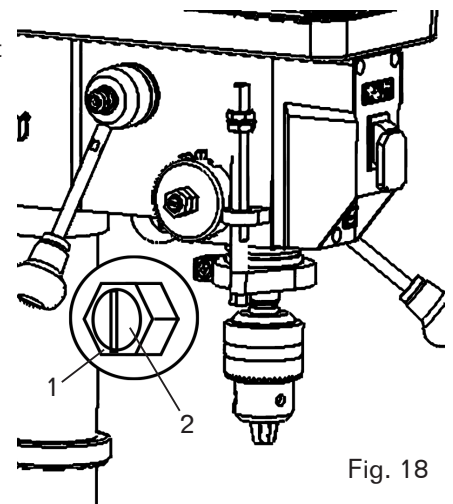

Fig. 18
## ANGULAR "PLAY" OF THE SPINDLE (FIG. 18)
1. Loosen the outer nut (Fig. 18 - 1) about 1/8 inch.
2. Without obstructing the upward and downward motion of the spindle, turn the screw (Fig. 18 - 2) clockwise to eliminate the "play."
3. Tighten the lock nut (Fig. 18 - 1).